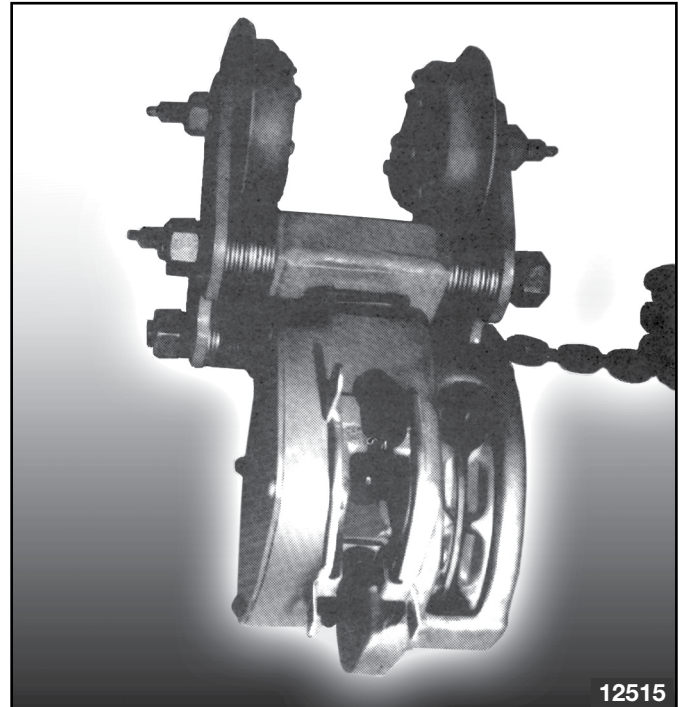

Figure 1. Chain Container Bracket
- Hold chain container bracket on hoist and fasten to underside of hoist with hex head screw. Connection to side of hoist is then to be in the following order: bracket, load chain, and the original hex socket head screw (and washer on 1½ and 2 ton models only.) See Figure 1.